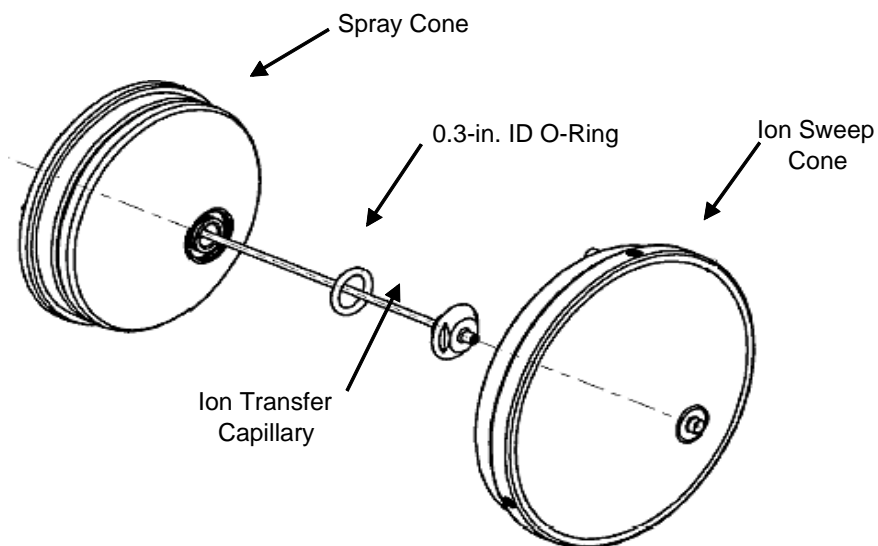

Figure 4-1. Ion sweep cone, ion transfer capillary, O-ring, and spray cone of the ion source interface
4. Remove the ion sweep cone by grasping the outer ridges of the ion sweep cone and pull the cone straight off of the API cone seal. Note, you might need to loosen the set screws on the ion sweep cone in order to remove it. See Figure 4-1.